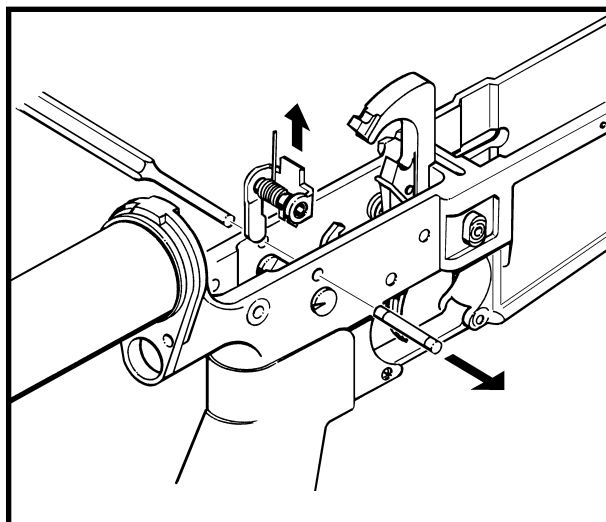

Figure 3-2-45 Removing the Automatic Sear
- a. **Automatic Sear.** See Figure 3-2-45 and remove the automatic sear as follows:
- (1) Move the fire control selector to the “Auto” position;
- (2) Press out the automatic sear pin, from the left side, with a suitable punch;
- (3) Take control of the automatic sear and automatic sear spring while removing the punch; and
- (4) Remove the assembled automatic sear.